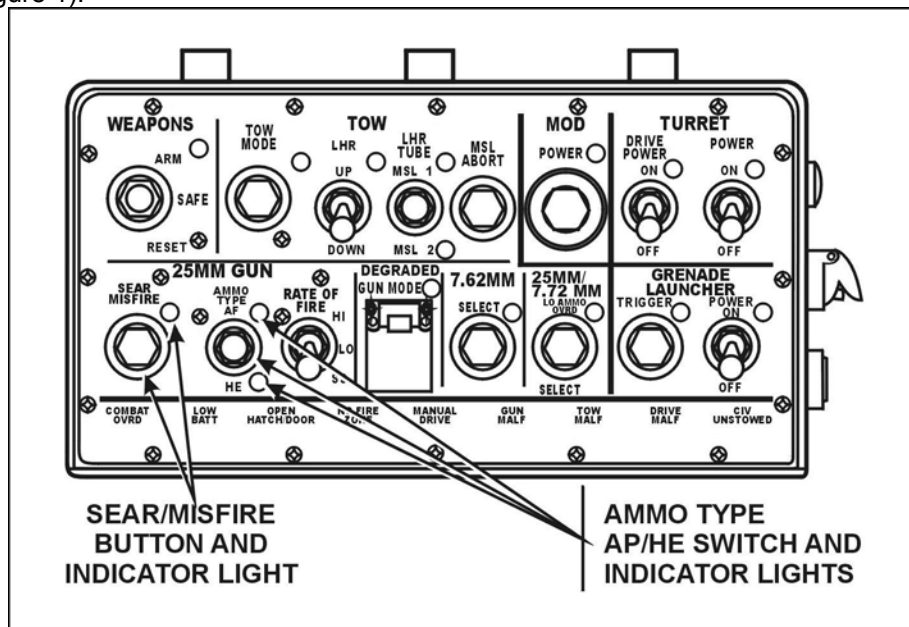

Figure 1. Ammo type and SEAR indicator.
- a. Select armor-piercing (AP) by moving the ammo type toggle switch up to the AP position (Figure 1).